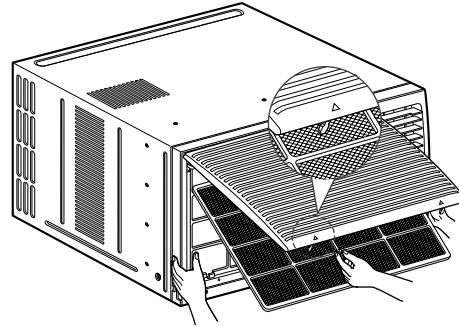

Figure 17
5. Re-install the component by referring to the removal procedure, above.(See Figure 17)